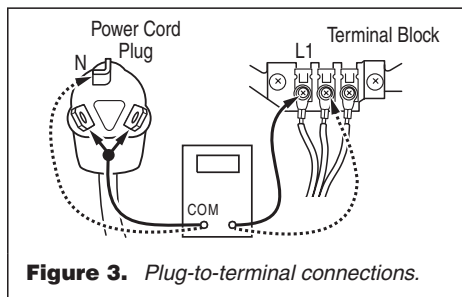

Figure 3. Plug-to-terminal connections.
3. With an ohmmeter, check for continuity between the neutral (N) terminal of the plug and the center contact on the terminal block. See figure 3.
will be L1 (black wire) in the wiring diagram. See figure 3.